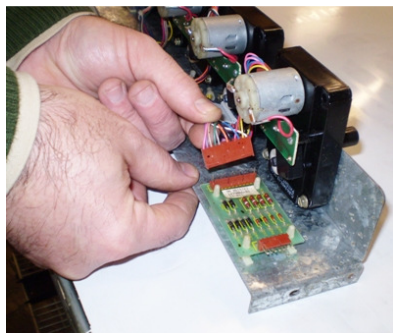

Figure 5
4) Remove the existing wiring harness from the motors (and the board if you are working on a 147) (Figure 5). The wiring harness may be discarded, as it is no longer needed.